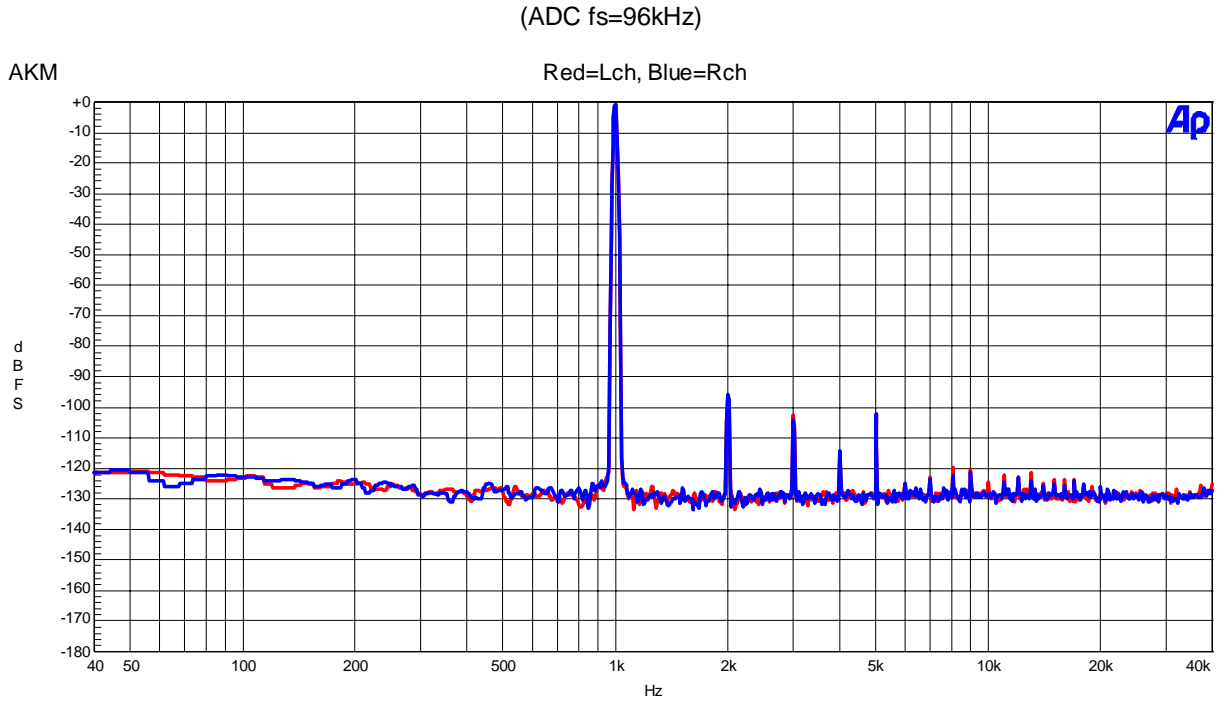

Figure 15 FFT (Input=-0.5dBFS, fin=1kHz)
- Figure 15 FFT (1kHz, 0dBFS input)